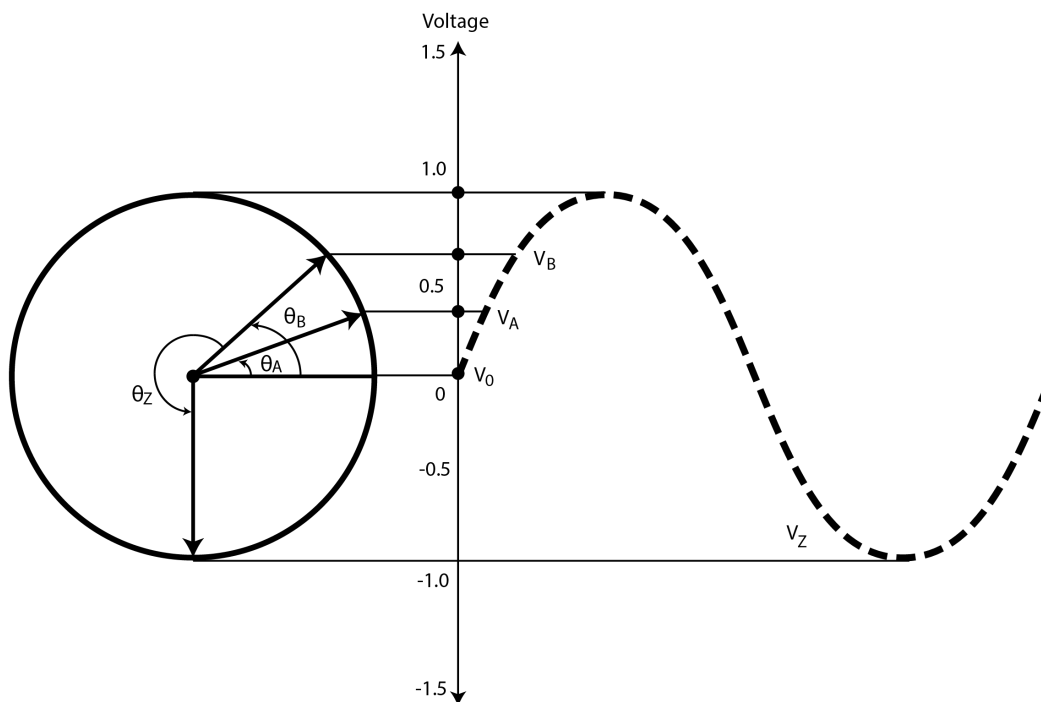
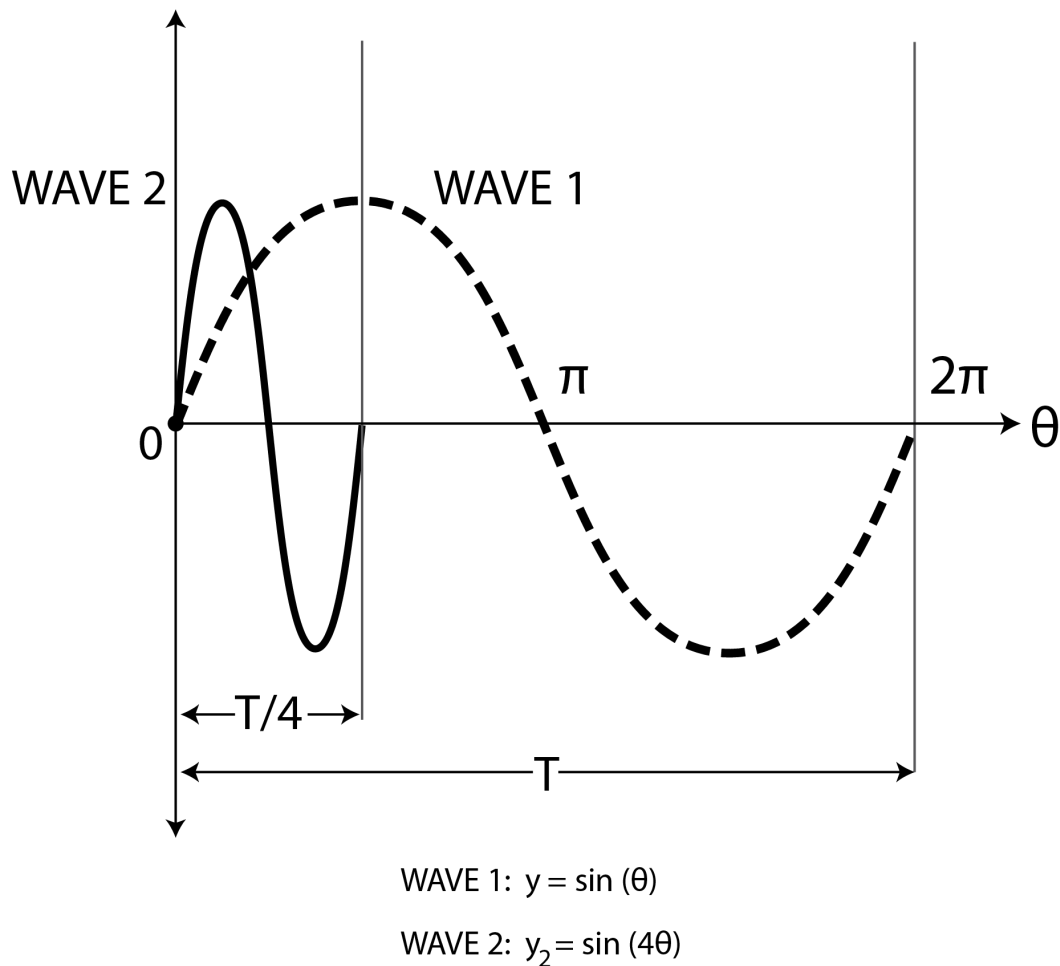

Figure 2a. Phase Diagram
Figure 3. Different Frequencies, Same Values
Figure 2a shows a basic trigonometric phase diagram where a sine wave is shown as a projection from a circle representing the phase of the waveform. The maximum voltage amplitude for the sine wave is the radius of the circle. For this discussion, we'll take the maximum voltage to be one for simplicity. As the phase angle θ advances counterclockwise, there is a corresponding value of voltage. One complete rotation is 2π radians. No matter how many times around, the same voltage corresponds to a specific angle θ . The frequency of the sine wave produced depends on how quickly rotations through 2π are completed (the angular velocity, ω).
The frequency is the reciprocal of the period (T) but by using the phase rather than a time-based measurement to capture voltage values, the repetitive nature of a waveform can be exploited. The higher the angular velocity (the quicker the rotations of angle Θ shown in Figure 2a), the higher the frequency. As shown in Figure 3, even though the frequency of a waveform changes, the voltage amplitudes are the same.